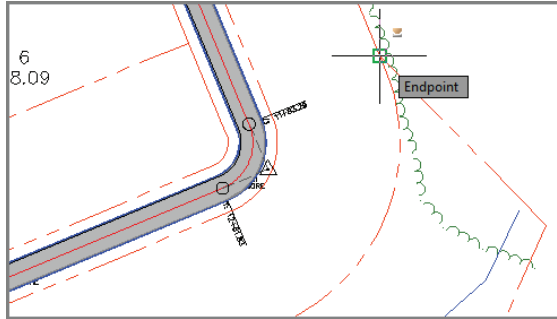

FIGURE 12.11 Selecting the beginning point of the frontage
10. When you're prompted for the start point of the frontage, snap to the northern endpoint of the Property : 2 parcel, as shown in Figure 12.11.